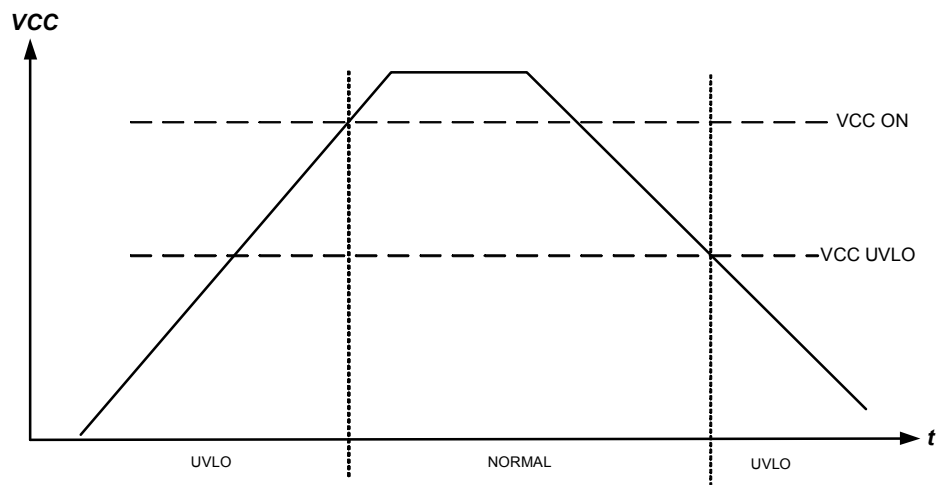

Fig. 14 - VCC Under Voltage Lockout
**Fig 14.** Max  $V_{CC}$  Voltage vs. Synchronous Rectifier Switching Freq,  $T_J=125^\circ\text{C}$ ,  $T_{IC} = 85^\circ\text{C}$ , external  $R_G=6\Omega$ ,  $1\Omega$  HEXFET Gate Resistance included